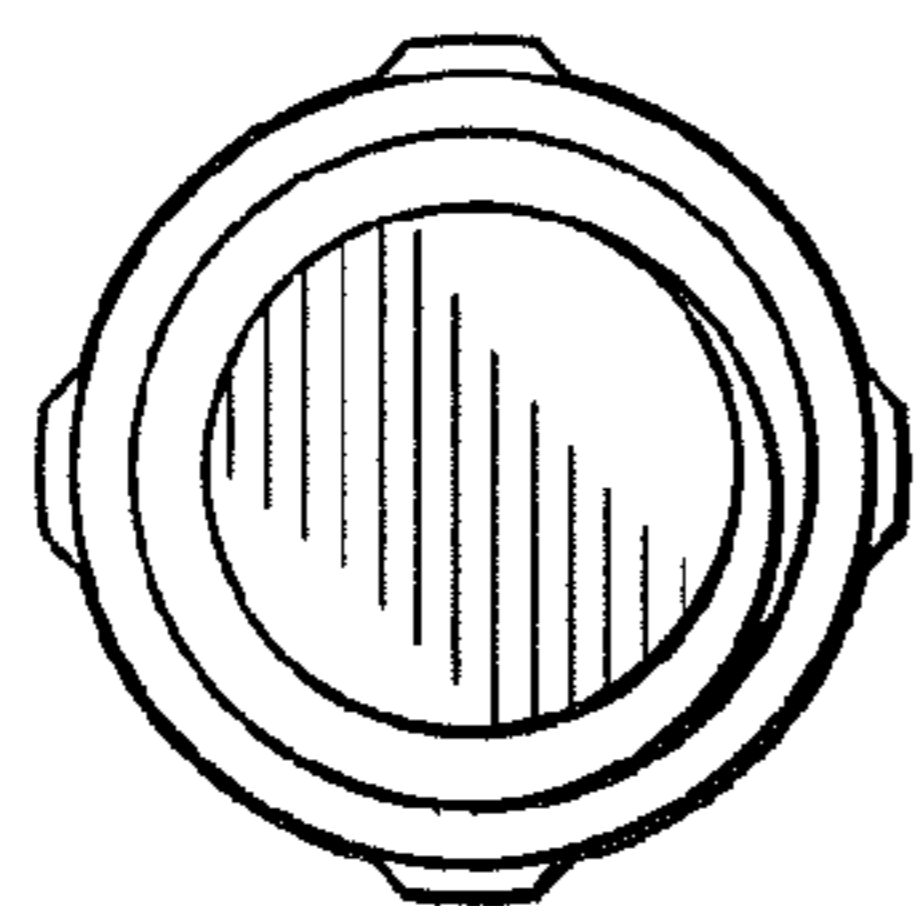

Fig. 23
- FIG. 23 is a top plan view of the stud having latitudinal ridges; and,